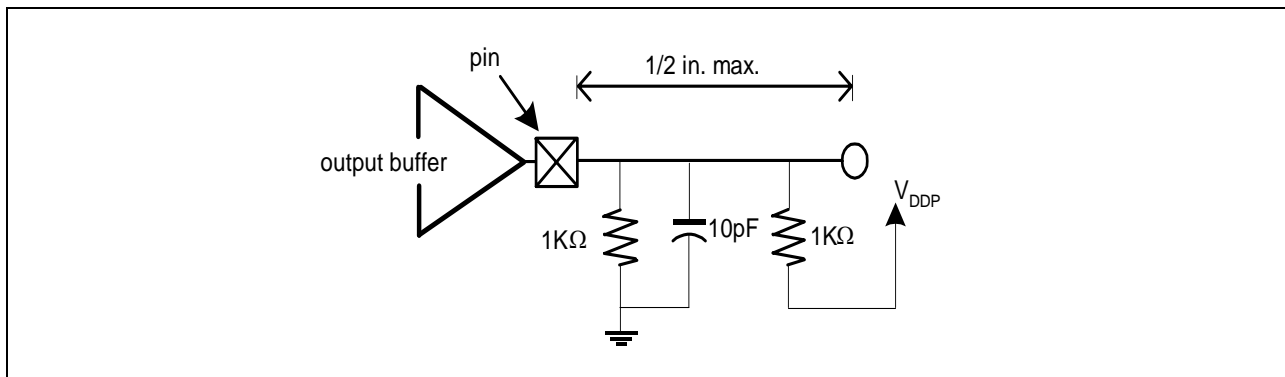
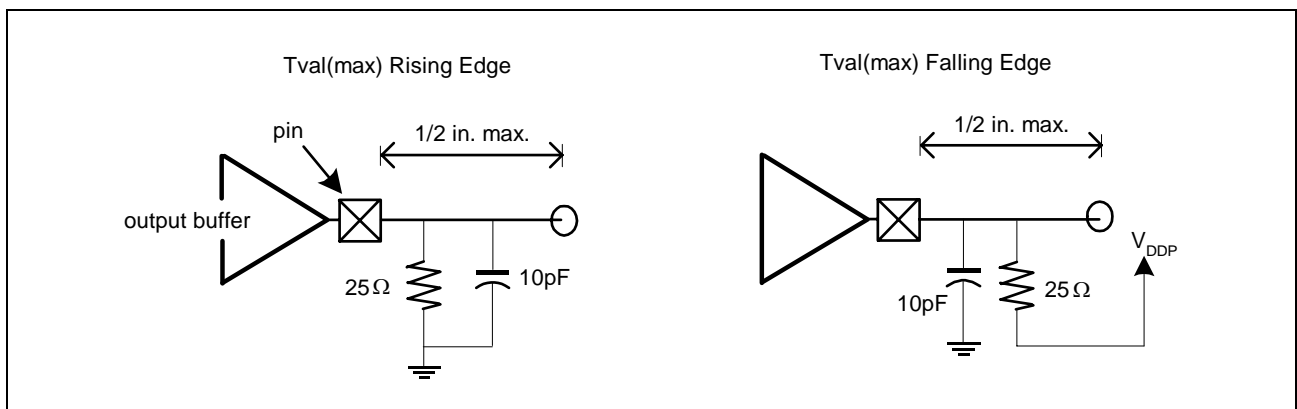

Figure 41 Load Circuit for Slew Rate Measurement
Figure 45 Load circuits for Maximum Clock to Signal Valid Delays
- 5) This parameter is to be interpreted as the cumulative edge rate across the specified range, rather than the instantaneous rate at any point within the transition edge. The specified load (see **Figure 41**) is optional; i.e., the designer may choose to meet this parameter with an unloaded output as per revision 2.0 of the PCI Local Bus Specification. However, adherence to both max. and min. parameters is required. Rise slew rates does not apply to open drain outputs.
2) Minimum times are evaluated with same load used for slew rate measurement (as shown in Figure 41). Maximum times are evaluated with the load circuits as illustrated in Figure 45.